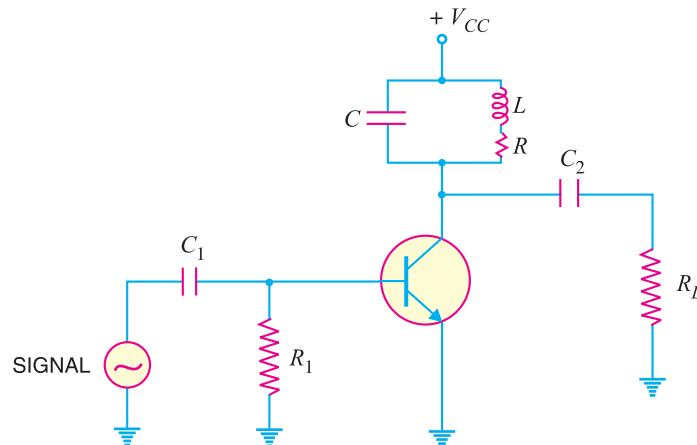

Fig. 15.20
Fig. 15.20 shows the circuit of tuned class  $C$  amplifier.
**Example 15.9.** In the circuit shown in Fig. 15.20,  $C = 500 \text{ pF}$  and the coil has  $L = 50.7 \mu\text{H}$  and  $R = 10 \Omega$  and  $R_L = 1 \text{ M}\Omega$ . Find (i) the resonant frequency (ii) d.c. load and a.c. load.